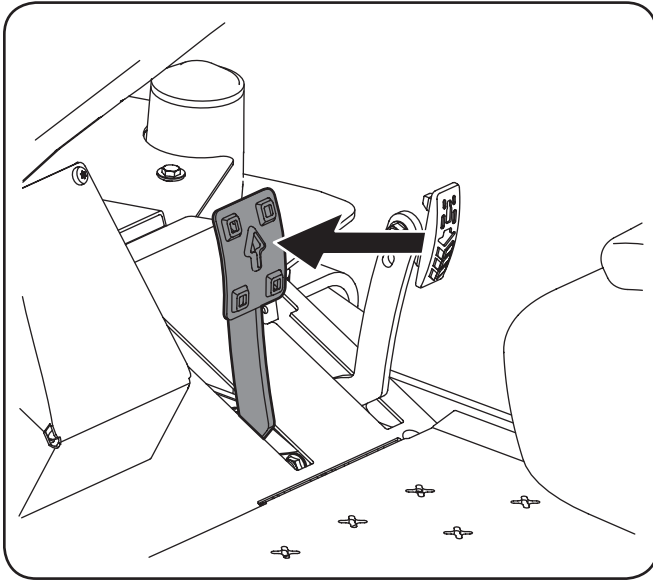

Figure 5-1
1. Slowly push the forward drive pedal forward. The tractor will start to move forward. See Figure 5-1.